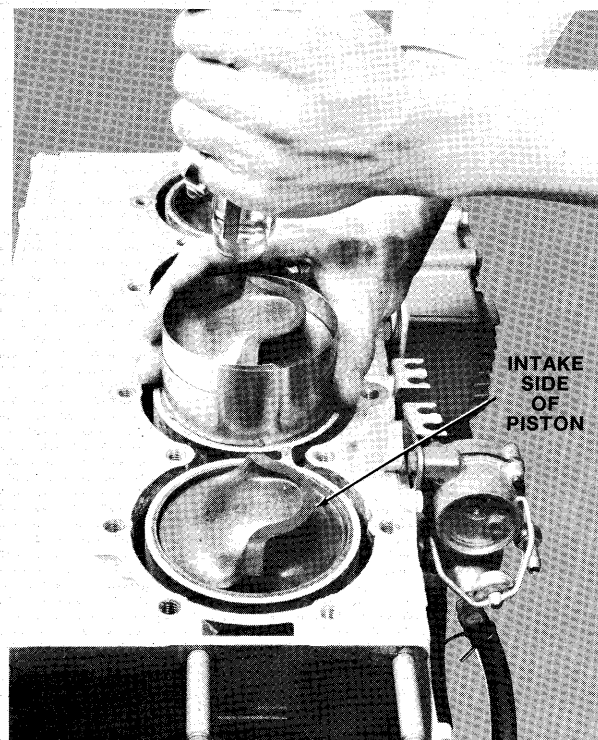

Figure 19—Installing Piston
- L. Install piston assemblies in cylinder using ring compressor (Special Tool T2996) as shown in figure 19. Position pistons in cylinder with intake baffle on piston on intake side of cylinder.